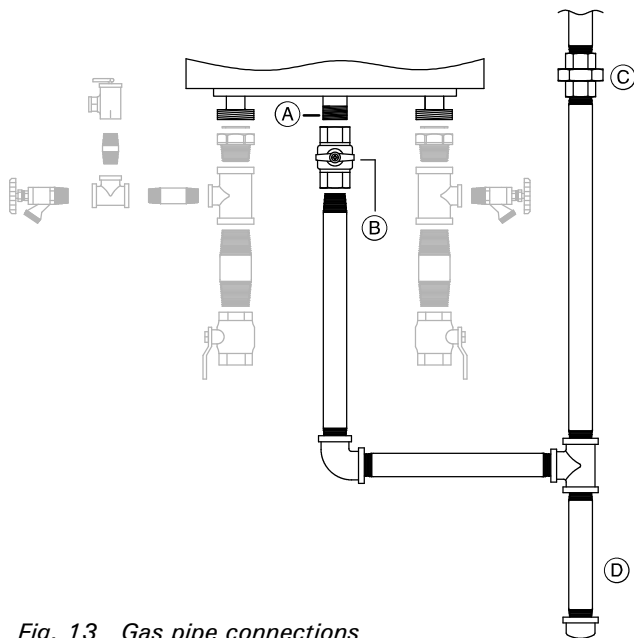

Fig. 13 Gas pipe connections
2. Before connecting boiler to gas line, install ground joint union, capped drip leg and a manual equipment shutoff valve as shown. Valves must be listed by a nationally recognized testing agency. Make boiler gas connection as shown in Fig. 13.